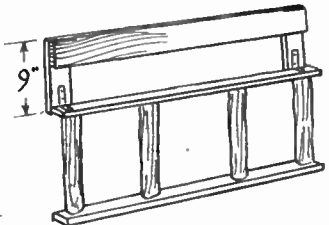

Fig. 1—Rear part of the seat
shown in Fig. 1. Dimensions for this are given in the plan view of the seat, and in detail, Fig. 3, the latter showing the proposed height. Size of timbers are given in the cutting list, and need not be repeated here. Cut the ground and seat rails to length given first. The legs can, for economy's sake, be sawn from rustic wood of $2\frac{1}{2}$ ins. diameter. See this wood is well seasoned before using. The length of the legs shown at (D) (Fig. 3) does not include the amount needed for a bottom tenon, so the needful extra must be added.